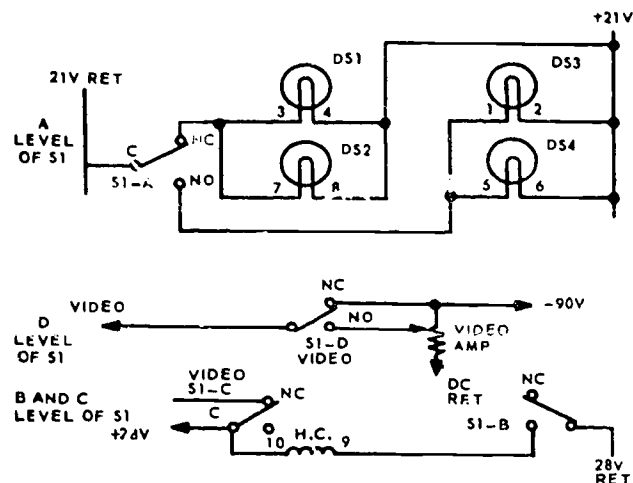

Figure 5-46. Switch (with holding coil) circuit.
In both types of switches, the holding and nonholding, lamp circuits are employed to identify the condition of the switch as ON or OFF. Observe the schematic shown in figure 5-46 and analyze how two of the lights (DS1 and DS2) are lighted when the switch is off and how two different lights (DS3 and DS4) are lighted when the switch is on. Trace the paths for current flow to prove this analysis. Also, observe how the holding coil shown in the
3. What are the uses of the digital switch shown in figure 5-46?